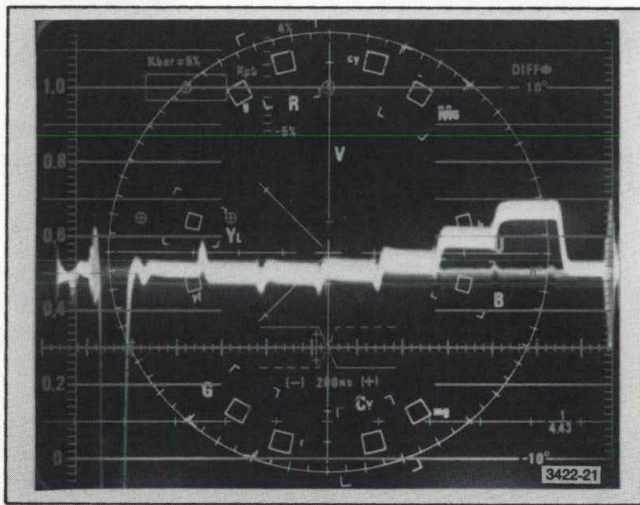

Fig. 3-22. DP Display with Modulated Stairstep Signal.
5. Using the PHASE control, also position the chrominance packet of the first step to the  $0^\circ$  line. See Fig. 3-22.